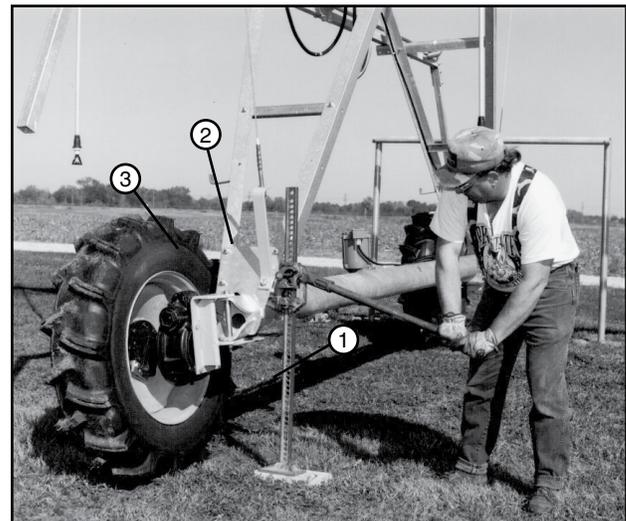

Figure 33-3 1. Jack
3. The wheels on each drive unit must be turned into the tow position. Use a jack to lift one side of the drive unit until the tire is off of the ground. See Figure 33-3.